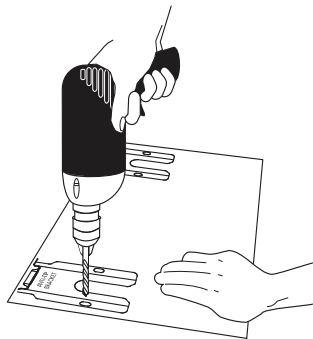

Fig 21
- Drill Pilot Holes & Fasten Bracket** - Drill 1/8" pilot hole where screws are to be located (Fig. 21). If bracket is to be mounted to the wall, drill pilot hole at an approximate 20° downward angle. If bracket is to be mounted to masonry or ceramic floors, drill 3/16" pilot hole 1-3/4" deep. The screws provided may be used in wood or concrete material. Use 5/16" nut-driver or flat head screwdriver to secure the bracket in place.